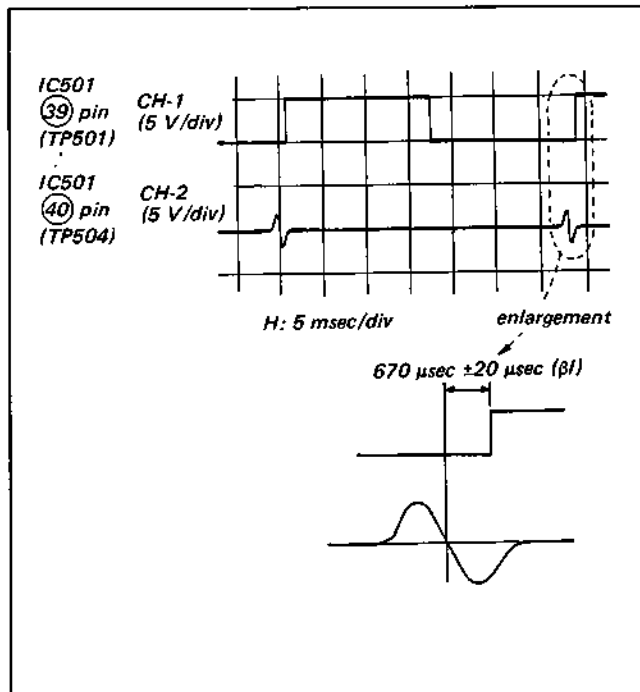

Fig. 5-8. RF switching position adjustment (2)
- (2) Change the CH-2 connection to IC501 pin ④ (TP504) and adjust to $670 \mu\text{sec} \pm 20 \mu\text{sec}$ with RV502. (β I switching pulse B) (See Fig. 5-8)
- (3) Be sure to perform "RF Switching Position Adjustment II", which follows, after performing this adjustment.